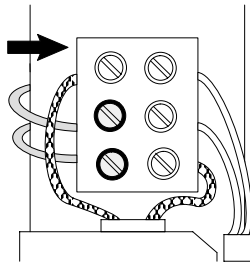

Figure 31 Connect the Thermostat Wires
8. See Figure 31. Connect the thermostat wires to the terminal block.